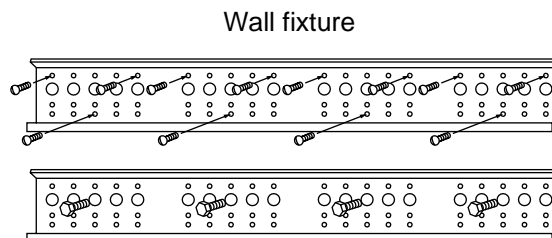

Fig. 3-30
- (1) Attach the wall fixture to the wall with the 12 screws provided. (Fig. 3-30) If you are not able to line up the holes in the wall fixture with the beam locations marked on the wall, use rawl plugs or toggle bolts to go through the holes on the panel or drill 3/16 in. dia. holes in the wall fixture over the stud locations.
- (2) Check with a tape measure or carpenter's level that the wall fixture is level. This is important so that the unit is correctly installed.
- (3) Make sure the wall fixture is flush against the wall. Any space between the wall and unit will cause noise and vibration.